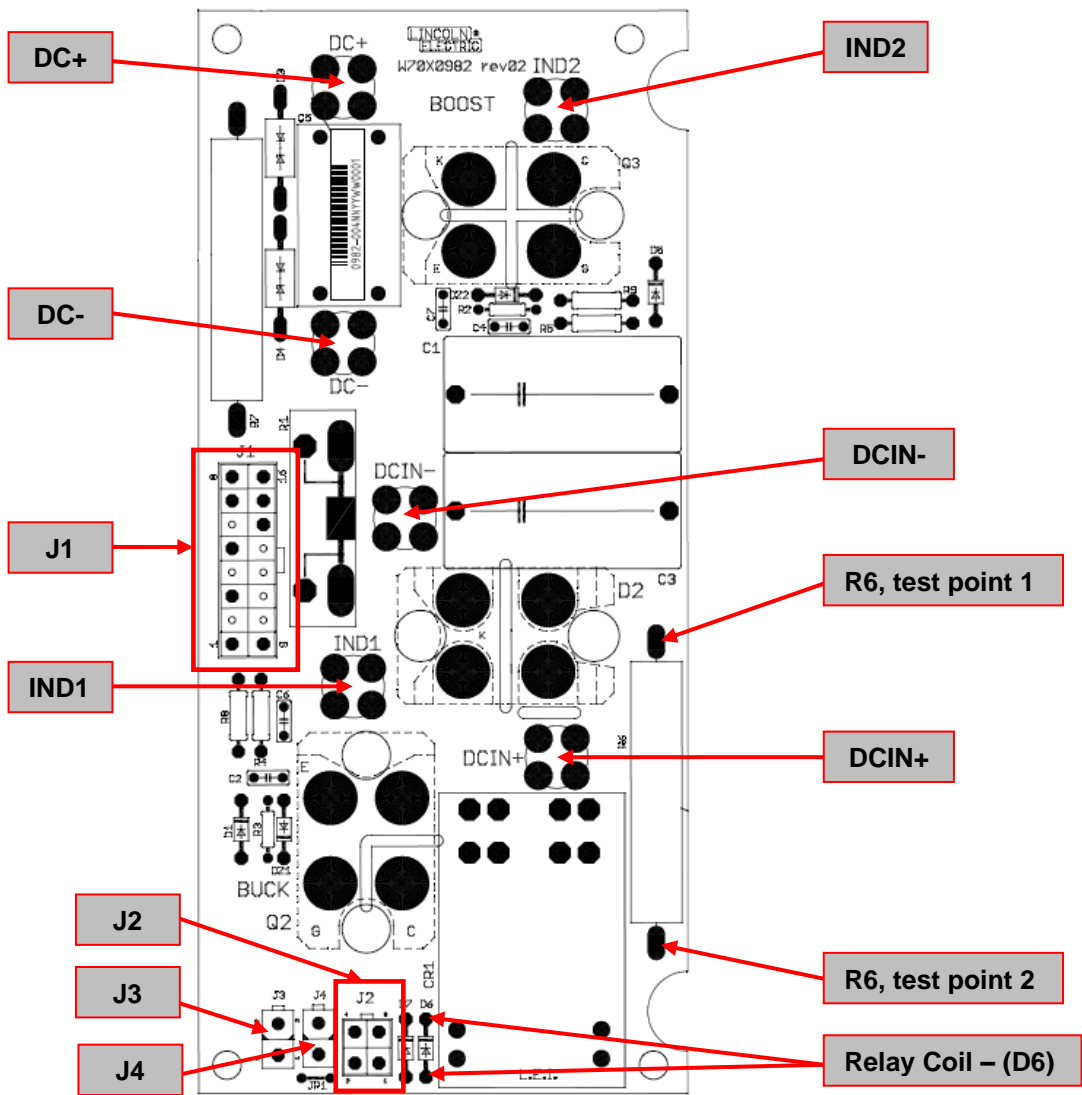

Figure 5 – W05X0982-1 & W05X0982-2 BUCK/BOOST Board Test
5. Perform the resistance and voltage tests detailed in **Test Table 4** and **Test Table 5**. See **Figure 5** for Test Point locations